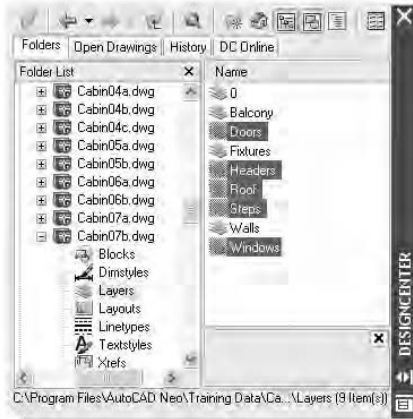

FIGURE 7.40: The DesignCenter with layers to grab highlighted
8. Use the Shift+ and Ctrl+ keys to help you select all the layers except 0, Balcony, Fixtures, and Walls (see Figure 7.40).